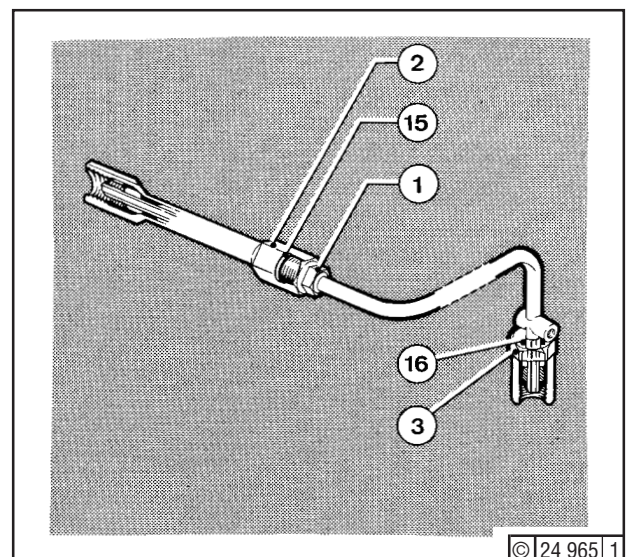

Fig. 2
Withdraw union nuts (2 and 3) from piping - Fig. 2. Undo fully cap screw (1). Renew O-seals (15 and 16), as well as clamping sleeves (14).